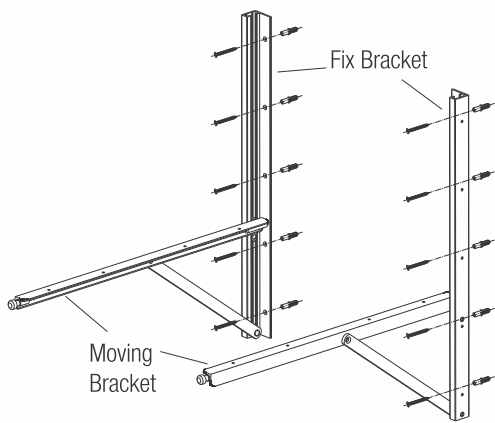

Fig. 1
1. Mount the Fixed Bracket to the wall with wall plugs & screws as shown in Fig. 1.